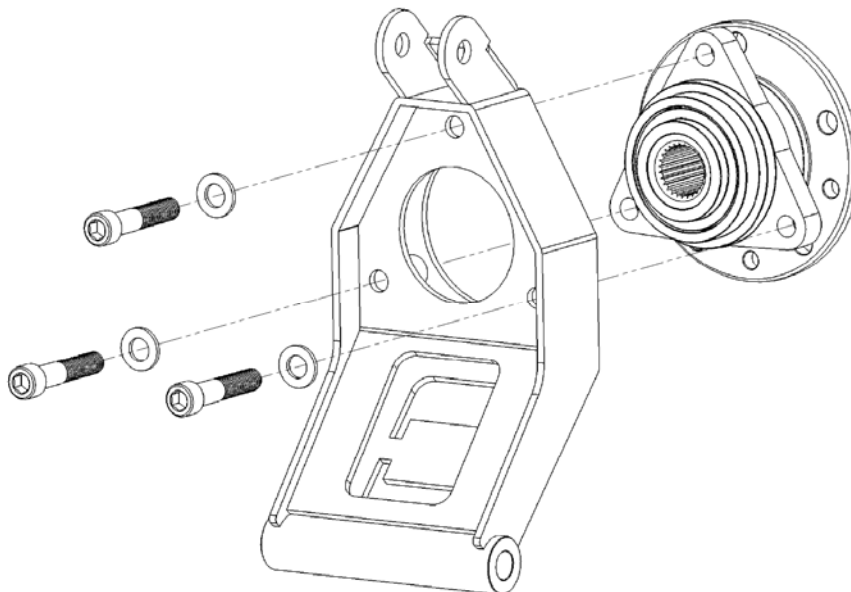

Figure 3. Install the hub as shown. Tighten the bolts in a spiral sequence to pull the hub in evenly.
- 5) Install the outer bearings into the outer uprights using the supplied 12 mm socket head bolts and washers, **and torque to 65 ft lbs** as shown in Figure 3. The use of thread locking compound is recommended for this step. The hub is a tight fit into the opening in the hub, so let the bolts pull the hub in as they are tightened. Tightening the bolts in a spiral sequence, like lug nuts on a wheel, will allow the hub to be pulled in evenly.